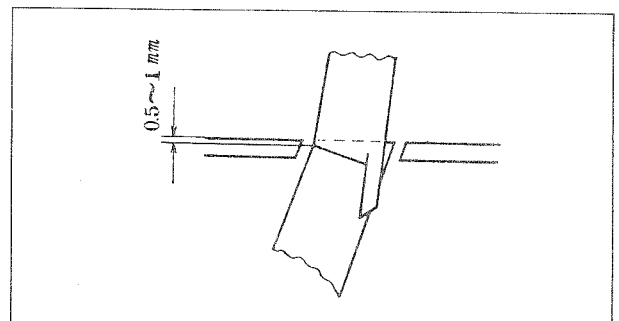

Fig. 15-2
- c) Upper knife height (Fig. 15-2)